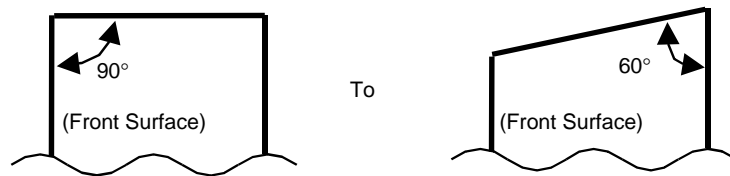

Figure 8-1 Paper Edge
- Cut the edge of paper in the manner as shown in **Figure 8-1**.
NOTE: The paper sensor is located on the same side as the head-up lever. If the paper is cut in a direction opposite to that as shown in **Figure 8-1**, then it will not detect the paper.